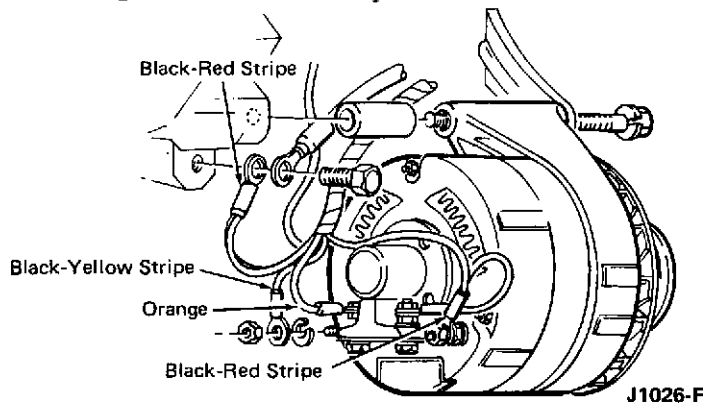

Fig. 33 - Alternator Mounting
4. Connect the wires to the alternator (Fig. 33). Position the alternator to the mounting bracket and install the mounting bolts and adjusting bracket bolt finger-tight.